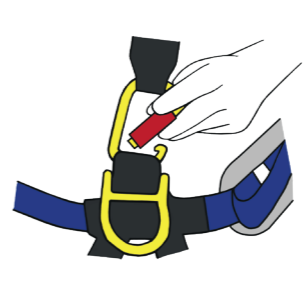

Fig 6
6. Pull the sternal attachment point over the head. (Fig 6)